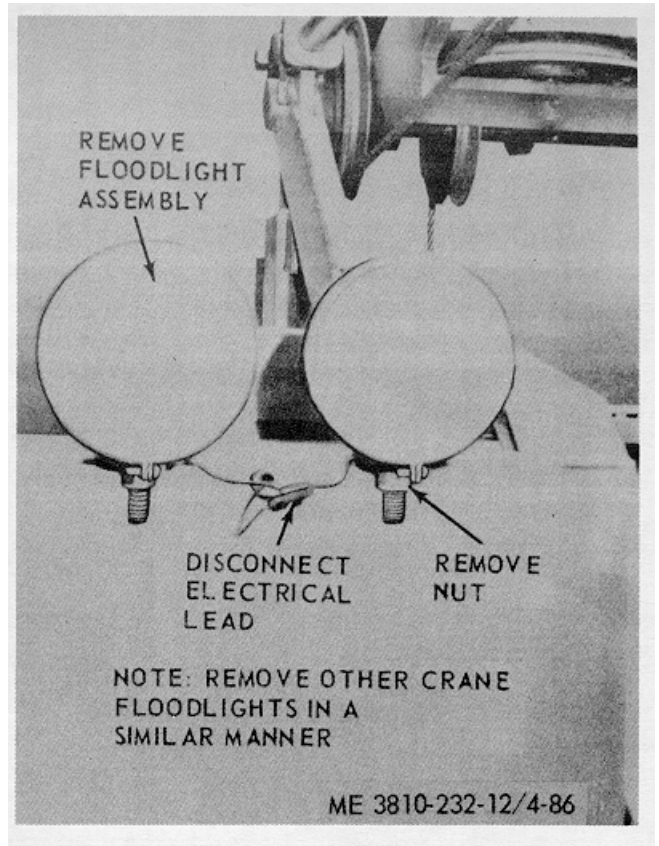

Figure 4-86. Floodlight, removal and installation
- a. Removal Remove the floodlights as illustrated in figure 4-86.
- c. Installation. Install floodlights as illustrated in figure 4-86.